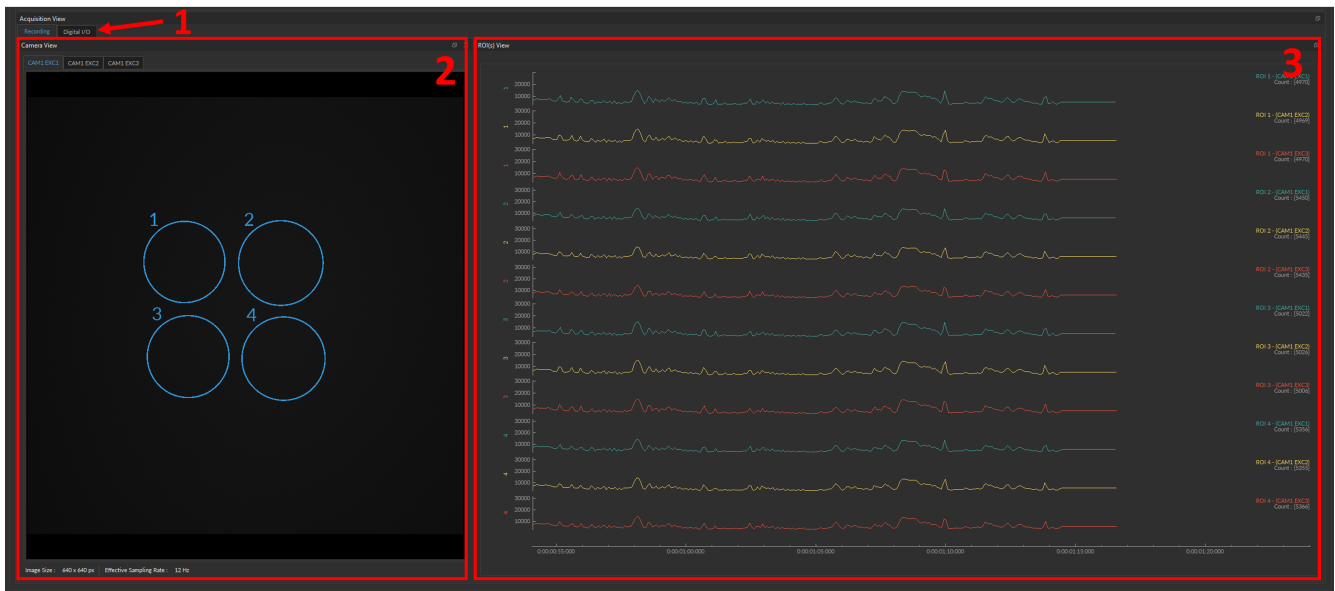

Figure 13.32: Acquisition View
The **Acquisition View** (Fig. 13.32) is split into three separate divisions, each of which visualizes different types of data in the following sections:
1. The **Digital I/O(s) View** (Fig. 13.32, 1) - Section 13.5.1;
2. The **Camera View** (Fig. 13.32, 2) - Section 13.5.2;
3. The **ROI(s) View** (Fig. 13.32, 3) - Section 13.5.3.